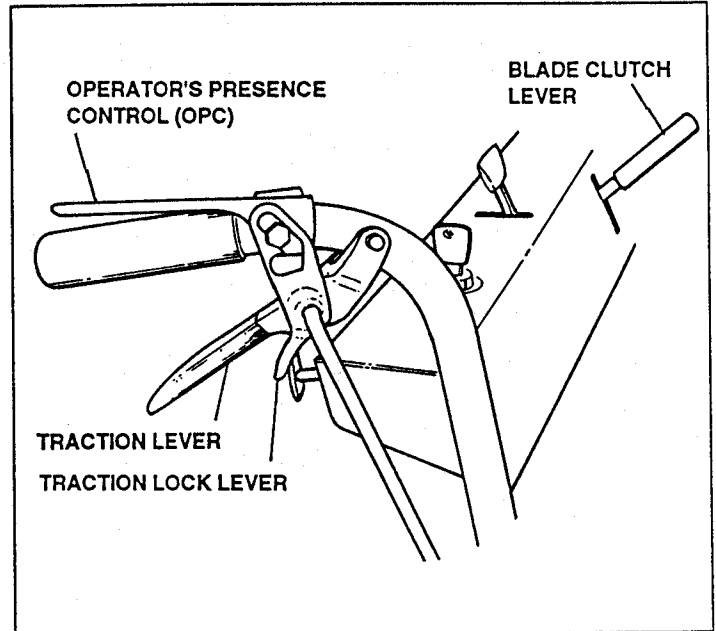

FIGURE 3
1. Firmly squeeze both Traction Levers towards the handlebar to **STOP** forward or reverse motion. Using your index finger, pull Traction Lock Lever until it locks in Park Brake position. See Figure 3.
2. Pull Blade Clutch Lever backward (toward handlebar) to the OFF position. See Figure 3.
3. Move Throttle Control Lever to **SLOW** (turtle) position. See Figure 3.
4. **STOP ENGINE** by turning Keyswitch to OFF. See Figure 3.
1. Pull both Traction Levers towards the handlebar to stop forward or reverse motion while pulling the Traction Lock Lever rearward until it locks the Traction Lever in Park Brake position. See Figure 3.
- 2b. Pull both Traction Levers toward the Handlebar while pulling the Traction Lock Lever rearward with index finger until it **locks** the Traction Lock Lever in Park Brake Position. See Figure 3.